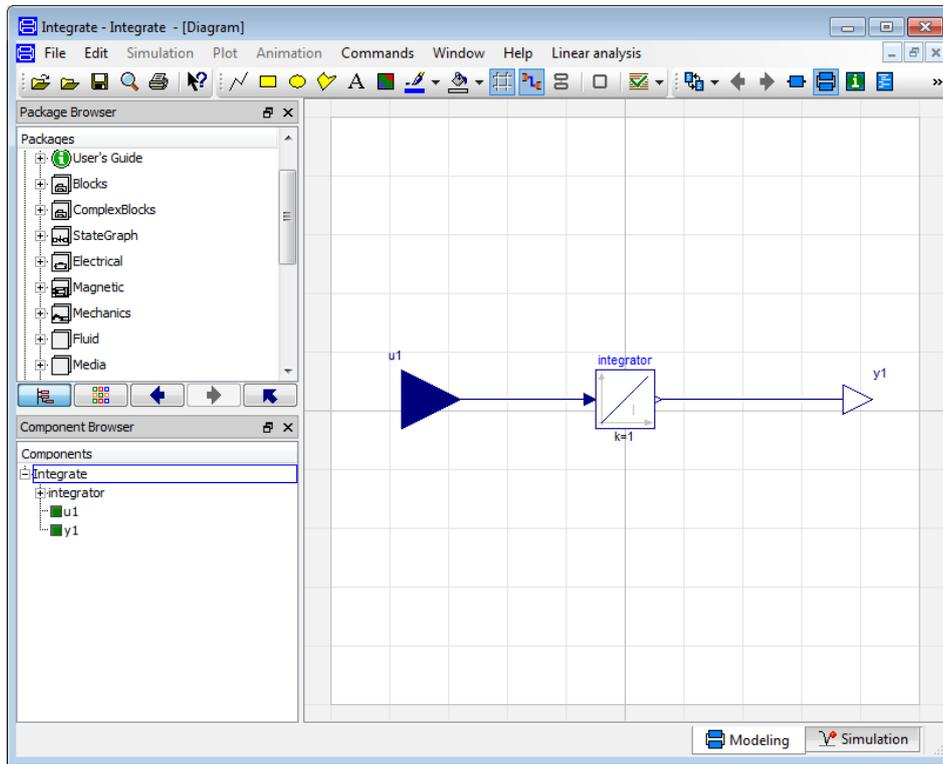

Figure 3.36 Block diagram view of the FMU model in Dymola.
1. The source code FMU that is used in this example is generated with Dymola 2014. The model can be seen in the block diagram in Figure 3.36 . The model has one input signal and output signal where the output signal is equal to the integrated input signal.